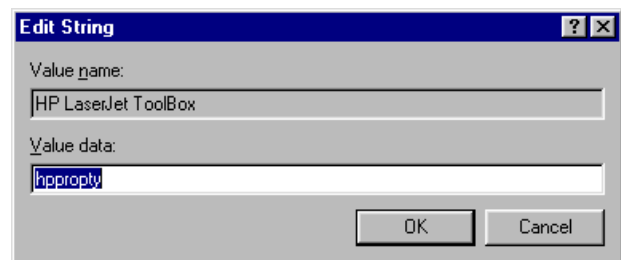

Figure 4. Removing the hppropty entry.
3. Double-click on *HP LaserJet ToolBox* to display the Edit String dialog box shown in Figure 4.